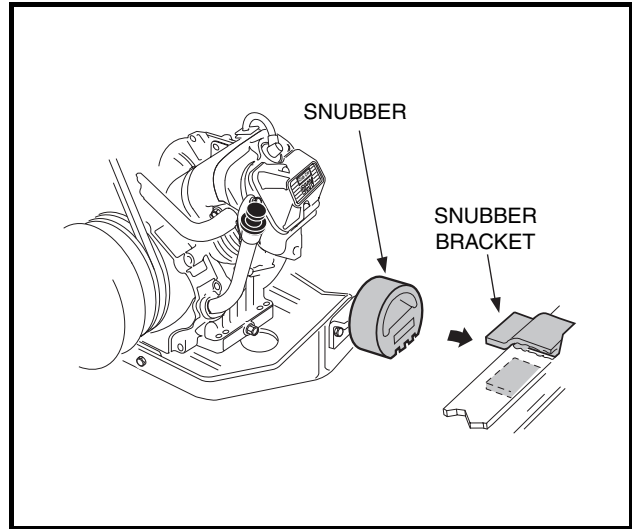

Figure 16-48 Snubber
14. Remove the blocks from under the engine and roll the powertrain into position under the vehicle. lift the front of the powertrain and place the snubber into the snubber bracket in the vehicle frame (**Figure 16-48, Page 16-19**).